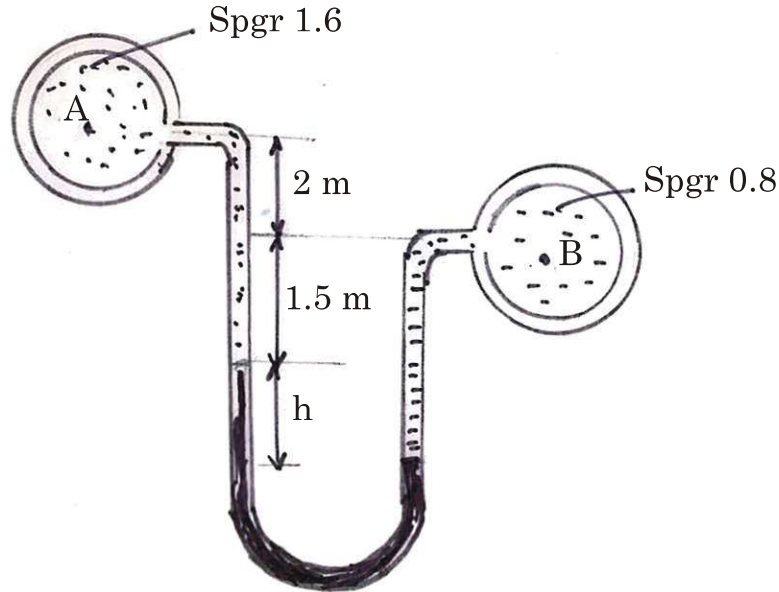

Fig. 1
- (c) A differential manometer is connected at two points A & B of two pipes as shown in Fig. 1. Pipe A contains liquid of specific gravity 1.6, while pipe B contains liquid of specific gravity 0.8. If the pressure at A & B are  $11.80 \times 10^4 \text{ N/m}^2$  and